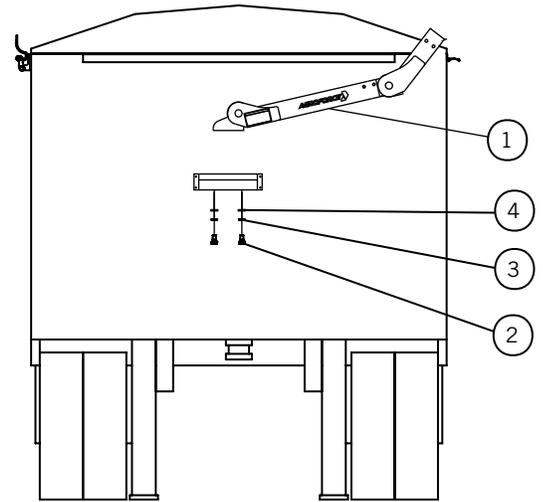

Figure 29-1
- 1) **Figure 29-1.** Using the supplied hardware, mount the front arm assembly to the mounting bracket located on the front of the trailer.